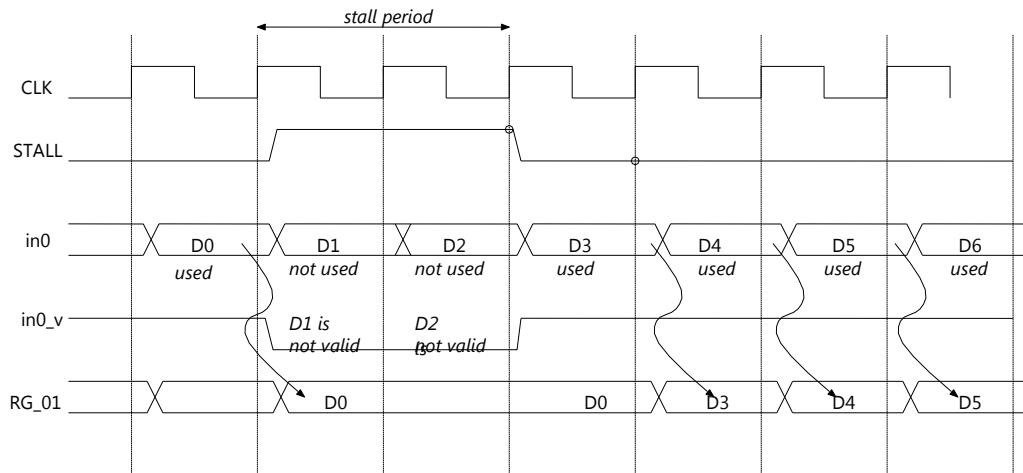

Figure 89: Behavior of the valid signal for "in ter" during the stall operation
- "in ter" (**Figure 89: Behavior of the valid signal for "in ter" during the stall operation**)